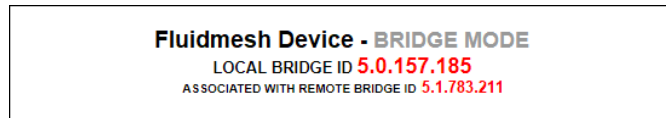

Figure 43. Configurator interface (Unit ID information)
- The unit ID number of the local unit is shown as the **LOCAL BRIDGE ID** (Figure 43 (page 117)).